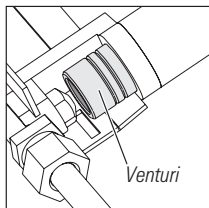

figure 2
- 9 Reset the venturi (see fig.2). Loosen the venturi screw, move the venturi toward the orifice approx. 2 mm.